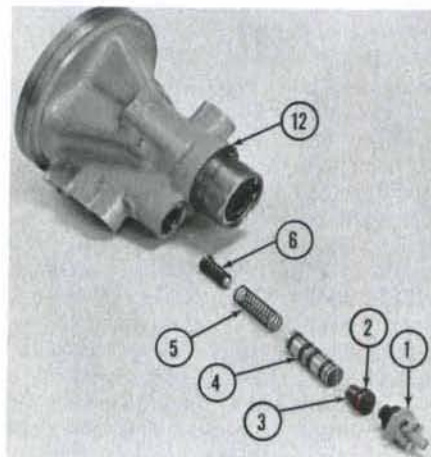

Fig. 12—Exploded view of Hydramotor housing and blocking valve components. Blocking valve can be removed without disassembly of Hydramotor.
16. R&R BLOCKING SPOOL (RE-ACTION) VALVE (Hydramotor Models). The blocking spool valve and related parts can be removed and reinstalled after the Hydramotor steering unit has been removed as outlined in paragraph 14. Refer to Fig. 12 and proceed as follows:
To reassemble, install parts in bore of housing (12—Fig. 12) as shown in exploded view, renewing the "O" ring (2) on plug (3) and tightening adjuster nut to a torque of 10-15 ft.-lbs.